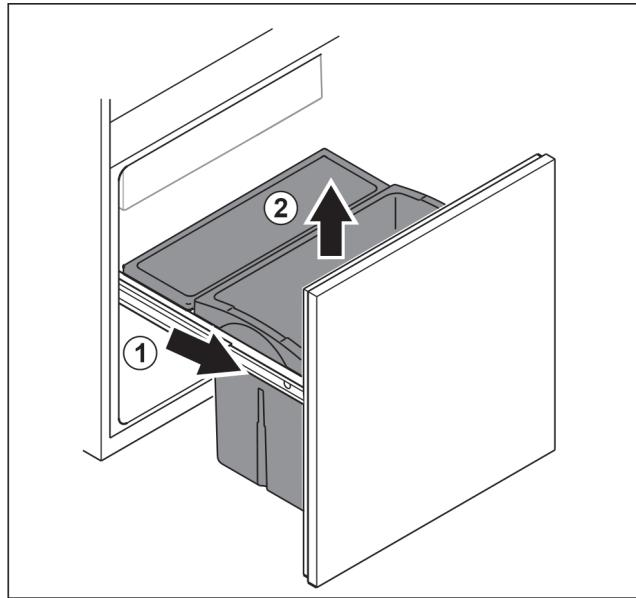

Fig. 103
- ▶ Remove the pull-out unit as far as it will go. *Fig. 103 (1)*
- ▶ Remove drawer upwards. *Fig. 103 (2)*